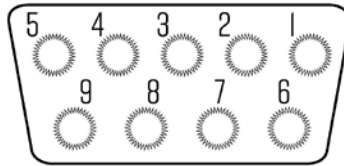

FIGURE 3: DB9 SERIAL CONNECTOR PINOUT
- Open the back cover of the weighing indicator, and insert signal cable to the terminal block (see figure 3); Make sure the screw on terminal block is fixed tightly
- Figure 3 shows the pin assignment on the DB9 9 pin connector